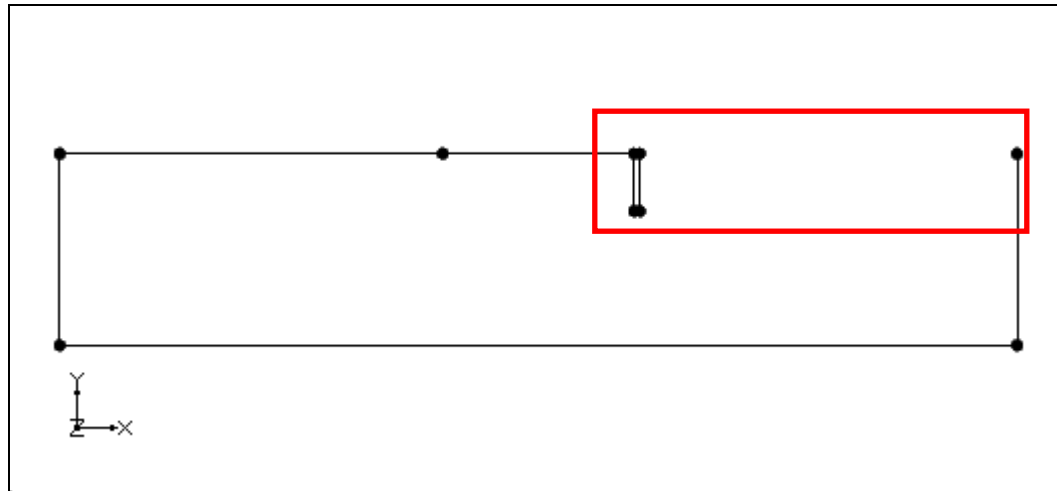

Figure 6. Arcs connecting points.
8. Select the *Zoom* tool  and drag a box as shown by the red box in Figure 6.